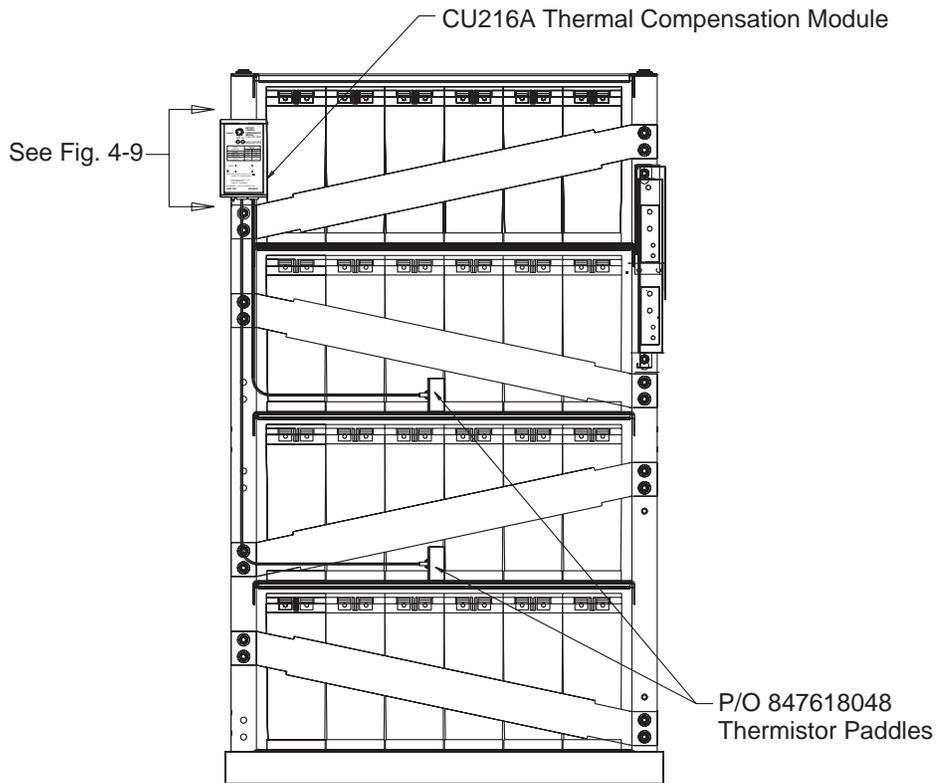

Figure 4-8: VR Battery stand (placement of thermistors)
2. Temporarily insert the thermistors in the battery locations to be monitored. See Figure 4-8 for suggested locations between the Lucent Technologies VR Batteries. Dress the thermistor wire sets from the Terminal Block Assembly to the thermistors and cut to proper length. The thermistors will need to be removed from the battery string during testing so do not secure them into place at this time.